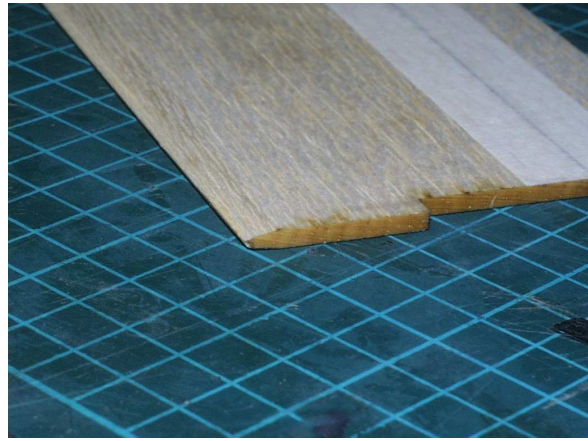

Figure 2.11: Rounded nose
- Shape the leading edge of the horizontal stab to an egg-nose profile (Figure 2.11)